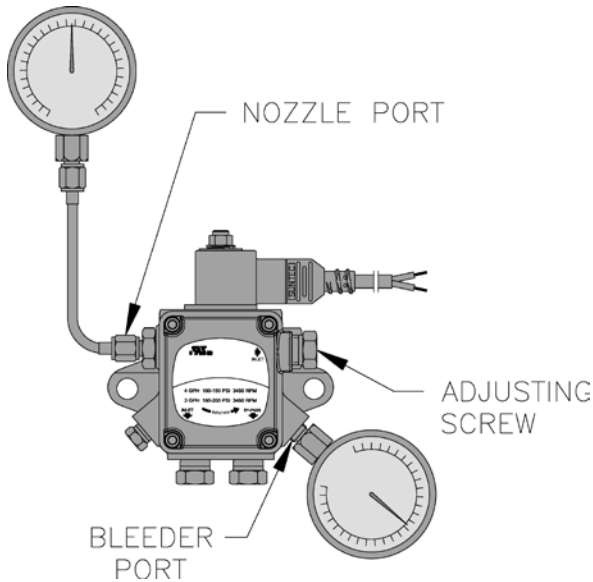

Figure 25: Adjusting Fuel Pump Pressure
a. When checking a fuel unit's operating pressure, a reliable pressure gauge may be installed in either the bleeder port or the nozzle port. For Beckett burner refer to Figure 25. Refer to Figure 9 for Riello burner.